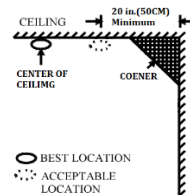

Figure 4:
- Install smoke alarms as close to the center of the ceiling as possible. If this is not practical, put the alarm on the ceiling, no closer than 20 inches (50 cm) from any wall or corner, as shown in Figure 4.
- If ceiling mounting is not possible and wall mounting is permitted by your local and state codes, put wall-mounted alarms between 4 and 6 inches (10 ~ 15 cm) from the ceiling, also see Figure 4.
IF IT IS NOT PRACTICAL TO MOUNT THE ALARM ON THE CENTER OF CEILING, PUT THE ALARM ON THE CEILING, NO CLOSER THAN 50 cm TO ANY WALL OR CORNER, AS SHOWN IN FIGURE 4